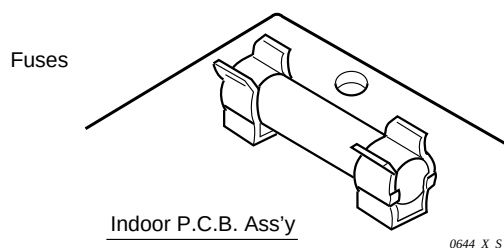

Fig. 4-8
⑤ **Fuse on indoor P.C.B. Ass'y**
- Remove the P.C.B. Ass'y from the electrical component box. Then pull out the fuse from the P.C.B. Ass'y. **(Fig. 4-8)**